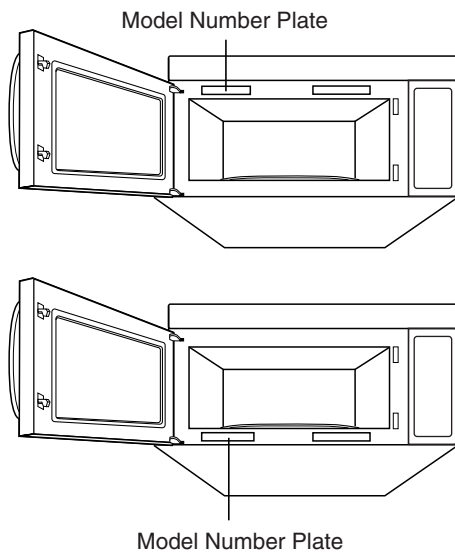
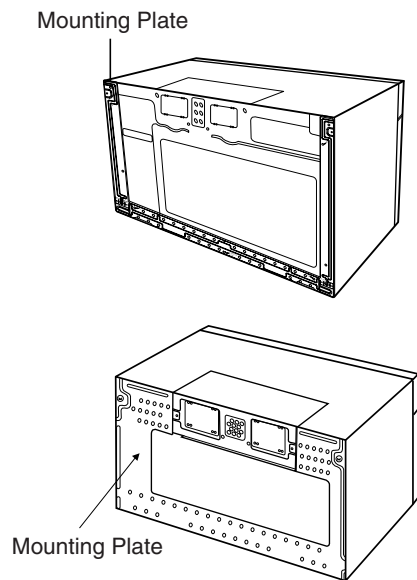

Figure 1
Figure 2
- Read the entire manual before you begin. The Model number label is located on the front of oven, behind door. See Figure 1. Mounting plate is located on back side of microwave oven. See Figure 2.